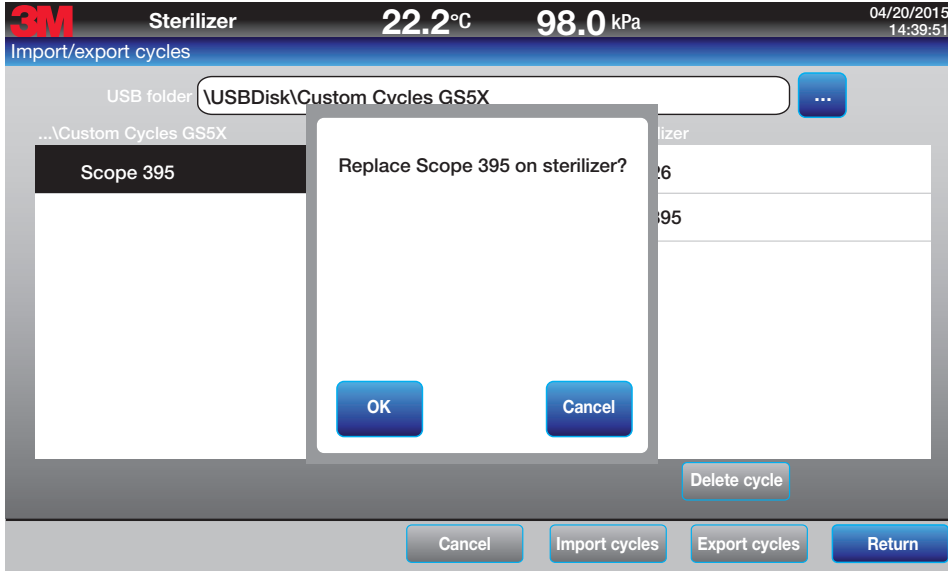

Figure 59.
- Replace the current cycle on the GSX Series sterilizer (Figure 59).
Figure 59 illustrates that the 3M™ Steri-Vac™ Sterilizer/Aerator GSX Series has detected a custom cycle to be imported has the same name as a cycle already on the GSX Series sterilizer. The sterilizer requests confirmation to replace the custom cycle on the sterilizer.